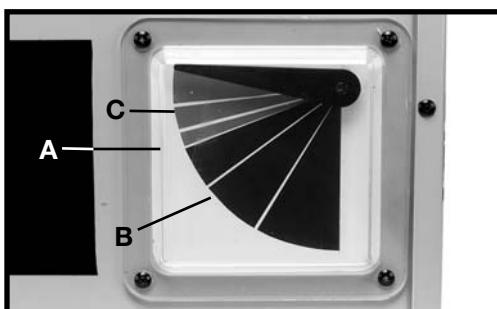

Fig. 9A
The model 50-875 Air Cleaner has an "air flow" indicator (A) Fig. 9A located on the left side of the unit. To check the filters, turn the unit "ON". If the indicator points to "green" (B) Fig. 9A, the filters are clean. Clean (or change) the filters when the indicator points to "red" (C) Fig. 9A as follows: